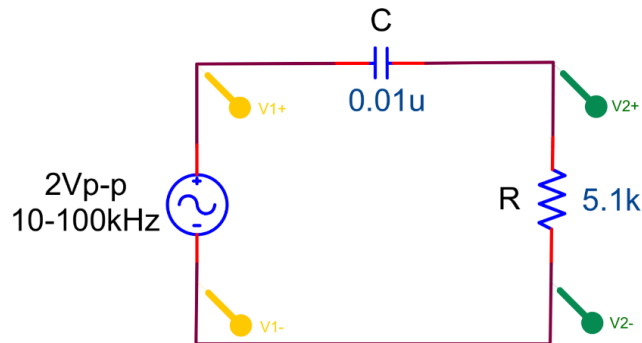

Figure 13.6
3. Construct the circuit of Figure 13.6. Use the oscilloscope to measure the magnitude and phase angle (with respect to the input) of v_2 . Make sure that the input remains at 1V as you vary the frequency. Use your measurements to plot the magnitude and phase angle versus frequency.
2. Use the SPICE AC analysis to plot the magnitude and phase angle of V2 versus frequency for Figure 13.6. Compare these to your experimental results.